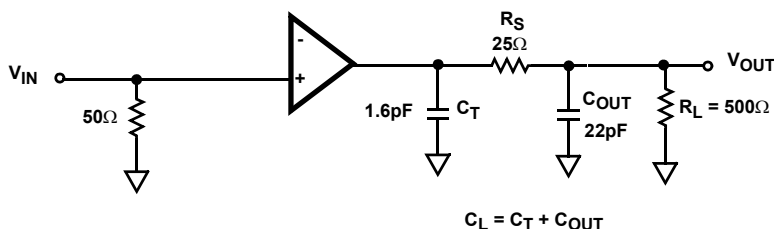

FIGURE 22B. LARGE SIGNAL 1Vp-p APPLICATION CIRCUIT
For large signal applications where overshoot is important the circuit in Figure 22B should be used. The series resistor (RS) and capacitor (CL) form a low pass network that limits system bandwidth and reduces overshoot. The component values shown result in a typical pulse response shown in Figure 18.